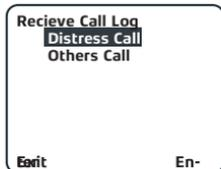

Figure 25
3. Rotate the multi-function knob to select the desired call from the list then press **Enter** (fig 25).